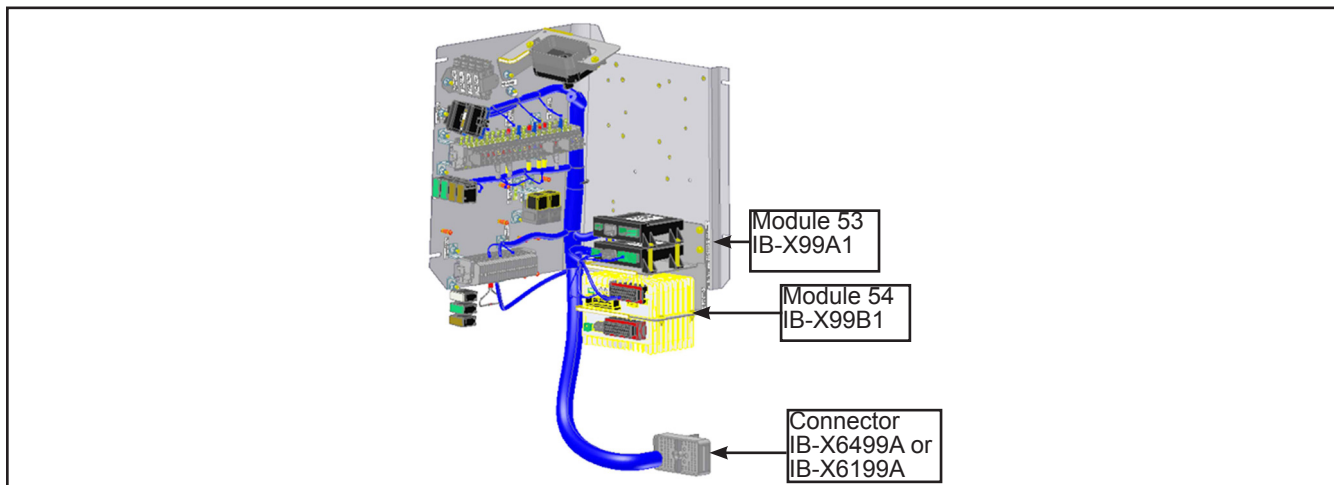

Figure 10 - IB Compartment
**Connector IB-X6499A. Pinning wires.** See Figure 10.
**Module 53.** See Figure 10.
**Module 54.** See Figure 10.